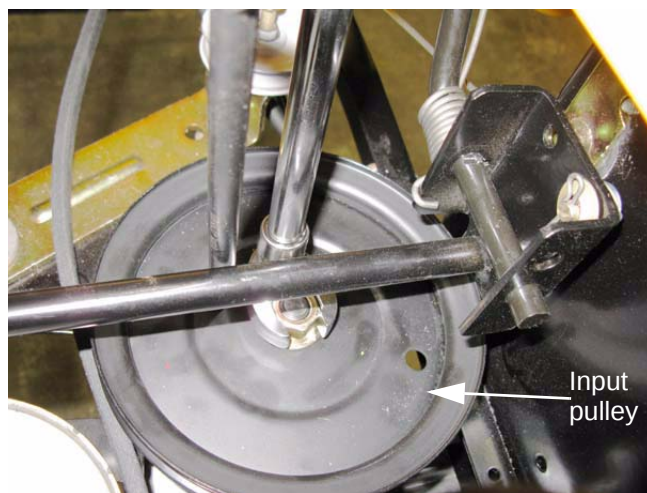

Figure 6.42
4. Remove the input pulley from the transaxle using a 7/8" wrench. See Figure 6.42.